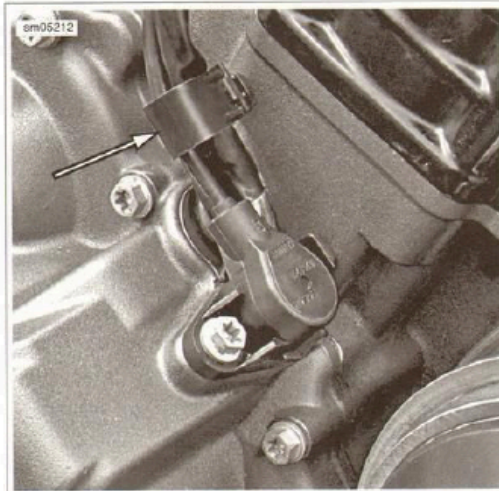

Figure 7-34. Stator and CKP Sensor Wire Harness Clip
1. See Figure 7-34. Remove the stator wire harness from the clip on the top of the ignition cover.